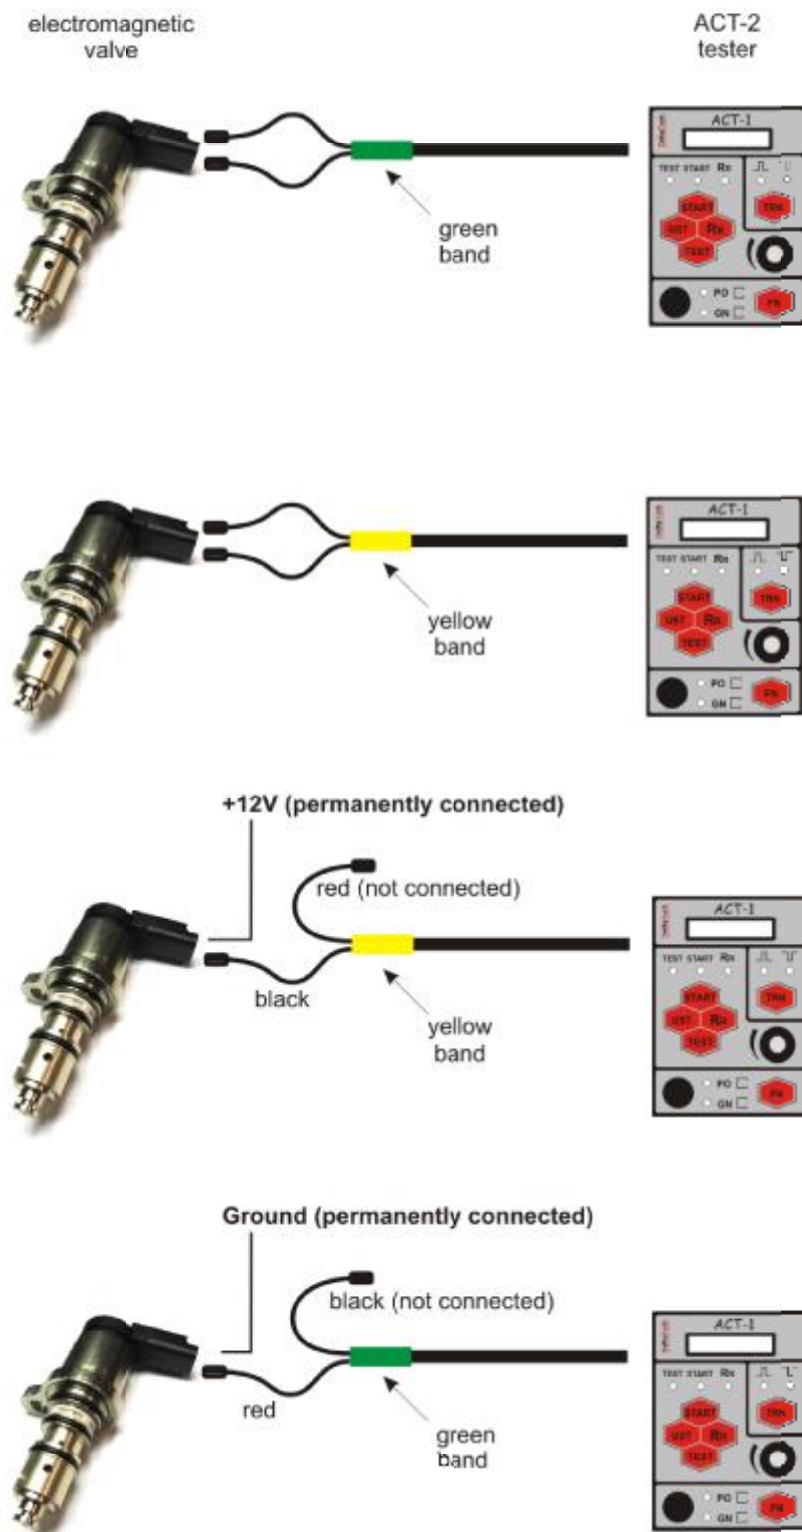

Figure 6.1
Connection diagrams for electromagnetic valve is shown in Figure 6.1.
1. Depending on type of valve connection properly connect the device according to Figure 6.1.